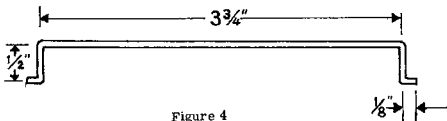

Figure 4
- (✓) Connect the leads from the bifilar coils to the solder lugs on the polystyrene bar; lead 1 to solder lug A, lead 2 to solder lug B, lead 3 to solder lug C, and lead 4 to solder lug D. Cut off the excessive length from each lead (NS).
- (✓) Repeat the above connections on the other bifilar coil, lead 5 to solder lug E, lead 6 to solder lug F, lead 7 to solder lug G, and lead 8 to solder lug H (NS).
- (✓) Cut a piece of #14 wire 4 3/4" in length. Bend and form the wire as shown in Figure 4. Connect one end to solder lug A (S-2) and the other end to solder lug E (S-2).
- (✓) Cut a piece of #14 wire 4 3/4" in length. Bend and form the wire as shown in Figure 4. Connect one end to solder lug C (S-2) and the other end to solder lug H (S-2).
- (7) Cut a piece of #14 wire 4 3/4" in length. Bend and form the wire as shown in Figure 4. Connect one end to solder lug C (S-2) and the other end to solder lug G (S-2).
- (8) Position solder lug J on the feed-through insulator so that it points away from the bottom of the chassis.
- (9) Cut a piece of #14 wire 1 1/2" in length. Form a small loop on one end and connect it to the wire going from solder lugs C and G. Connect the other end to solder lug J. Solder both connections.